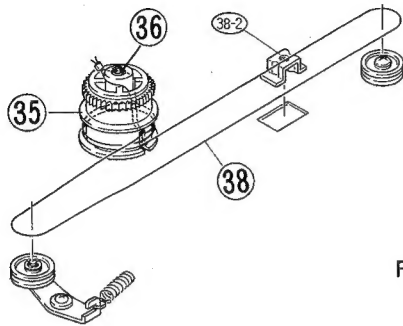

Figure 12
1. Prior to mounting, String K (38) should be rolled two turns by Wheel (35) (Fig. 12).
4. Place the Guide (38-2) to the depressed part on case bottom (Fig. 12).